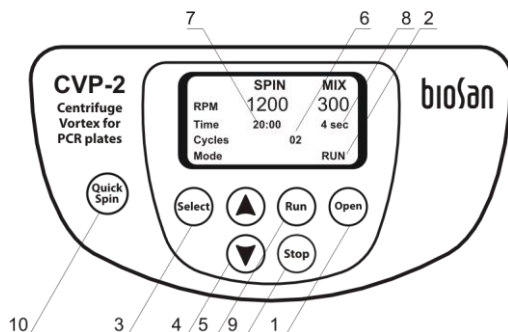

Fig. 2. Front panel
- 4.2. Press the **Open** key (fig. 2/1) and open the lid by lifting it upwards by hand (indication "OPEN" will appear in the Mode bottom line, fig. 2/2). Lid will open only with rotor stopped.
Press the **QS** (fig. 2/10) button for quick mixing / sedimentation and hold it pressed for the desired time. The unit will automatically when the **QS** button is released.
- 4.7.1. By pressing **Select** key (fig. 2/3) choose a parameter to change. Each pressing of the **Select** key consecutively activates parameters in operation cycle, currently active parameter is indicated by blinking.
- 4.7.2. Use ▼ and ▲ keys (fig. 2/4) for setting the corresponding values (pressing a key for longer than 2 seconds will increase change rate).
4.12. Press **Run** key (fig. 2/5) to start operation.
4.13. Rotor will begin rotating and on the display, indication RUN (fig. 2/2), cycle countdown (fig. 2/6) and changing parameters of the current mode (fig. 2/7 and fig. 2/8).
4.14. Operation can be stopped before the set number of cycles elapses if necessary by pressing the **Stop** key (fig. 2/9).
4.15. Unit stops automatically after executing set number of cycles (blinking indication STOP (fig. 2/2) on the display) and the lid unlocks automatically. A sound signal is emitted after full stop of the rotor. Press **Stop** key (fig. 2/9) to stop the signal.